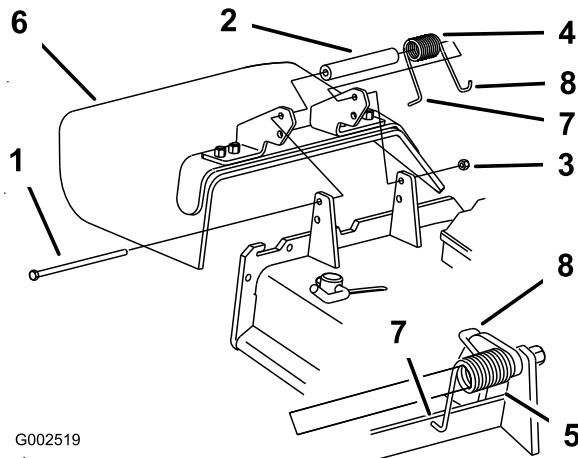

Figure 77
1. Remove the locknut, bolt, spring and spacer holding the deflector to the pivot brackets (Figure 77).
**Note:** Make sure the **L** end of the spring is installed behind the deck edge before installing the bolt as shown in Figure 77
5. Place the **J** hook end of the spring around the grass deflector (Figure 77).